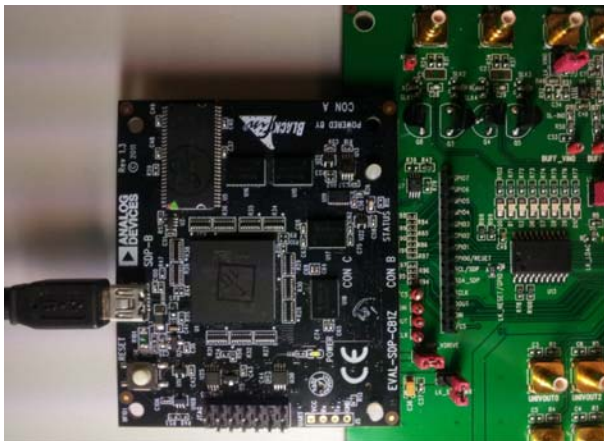

Figure 7. EVAL-AD7293SDZ Connected to the EVAL-SDP-CB1Z
2. Plug the USB cable into the EVAL-SDP-CB1Z, then plug the EVAL-SDP-CB1Z into the EVAL-AD7293SDZ and secure it using plastic screws (see Figure 7).